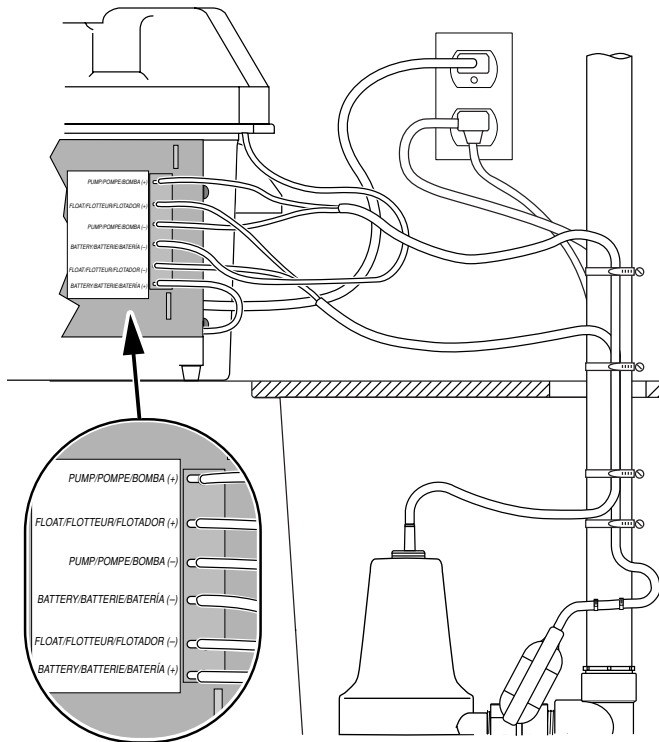

Figure 11 – Wiring Connections FP2800DCC
1. Connect charger as shown in Table IV and Figure 11.